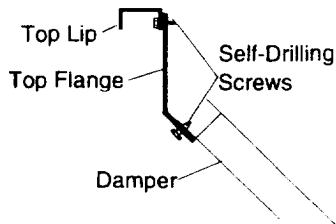

Figure 11: Securing Damper To Top Flange
- Fasten the damper to the top flange using pilot holes and self drilling screws provided. Refer to Figure 11. No fastening to the bottom track is required.